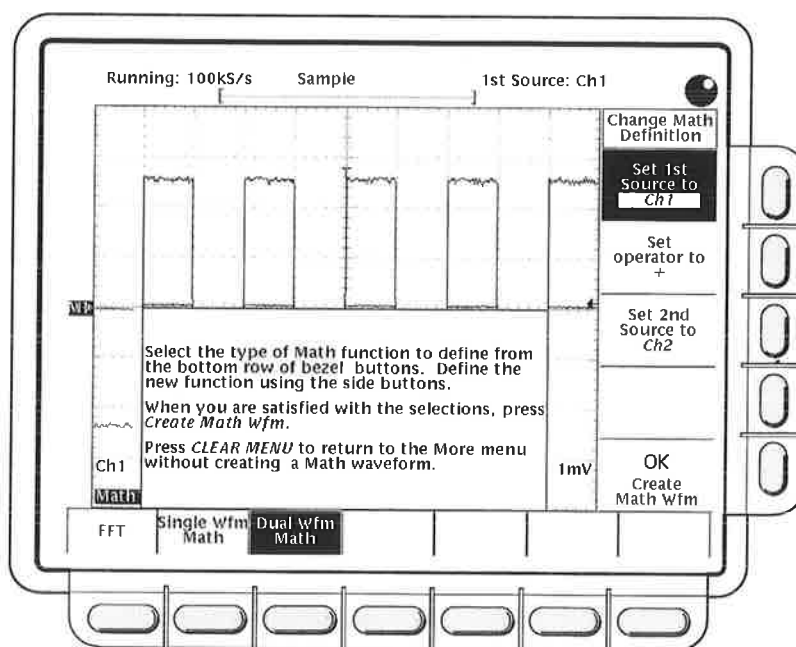

Figure 3-64: Dual Waveform Math Main and Side Menus
2. Press **Change Math waveform definition** (side) → **Single Wfm Math** or **Dual Wfm Math** (main) to alter the present math waveform definition (see Figure 3-64).